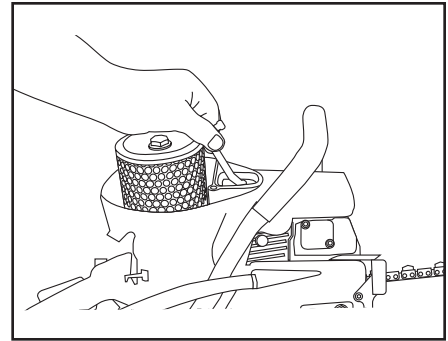

Figure 1
- Remove the spark plug and insert the piston stop (supplied with each saw) into the spark plug hole. Pull the starter cord slowly until the piston stops. (Figure 1) Use a 19mm wrench to turn the clutch clockwise and remove.